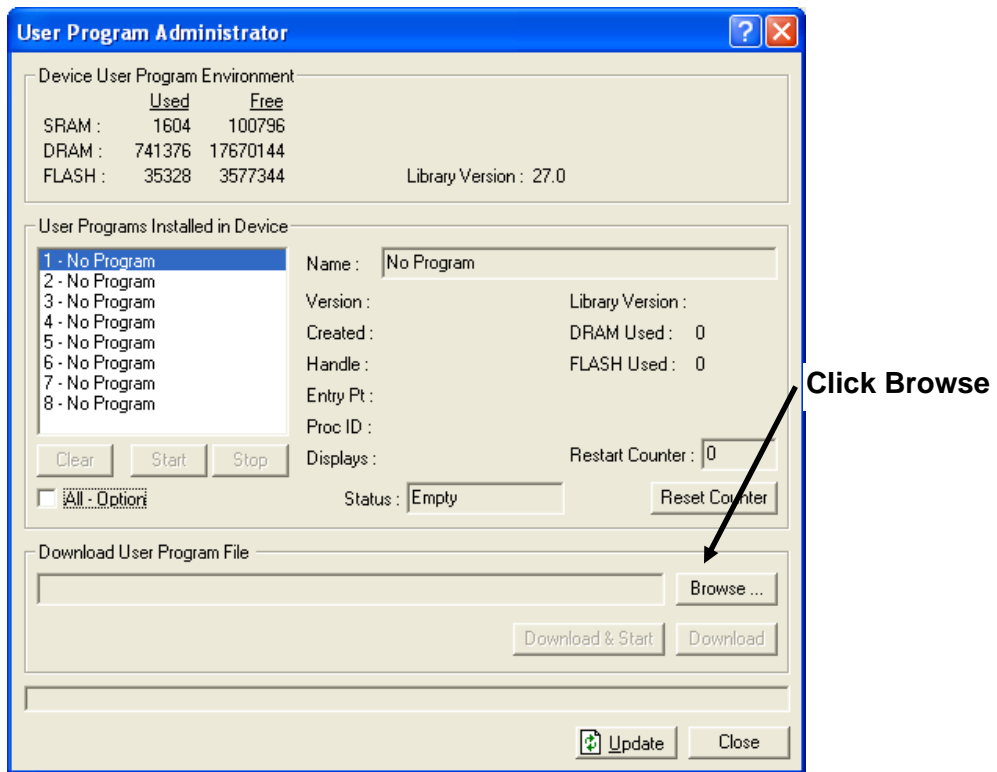

Figure 6. User Program Administrator
3. Select **Utilities > User Program Administrator** from the ROCLINK menu bar. The User Program Administrator screen displays (see *Figure 6*):